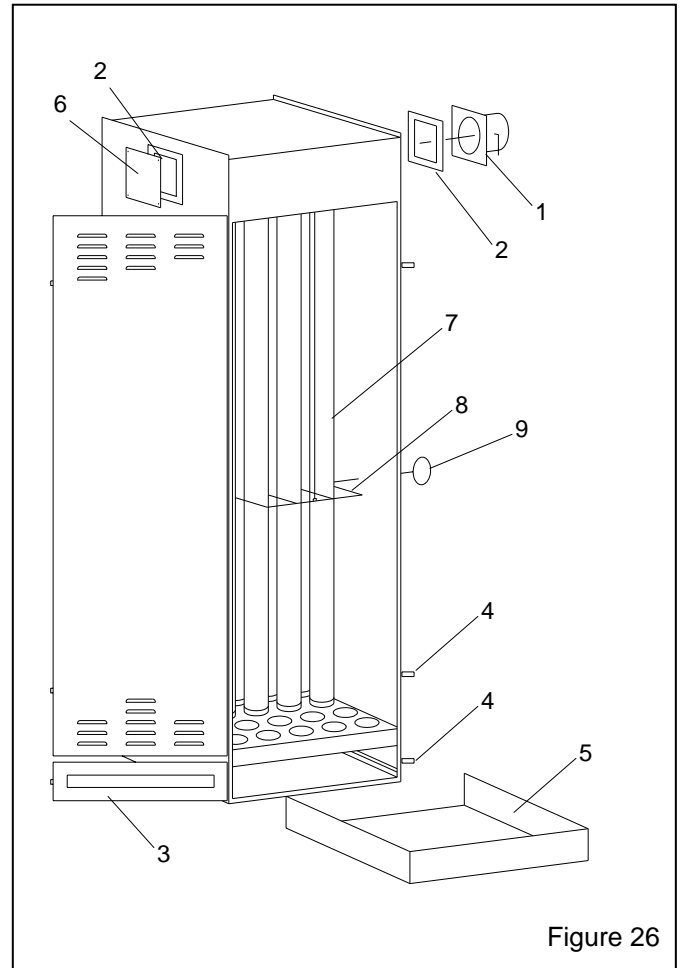

Figure 26
9.10 Dry Filter Dust Collector, Figure 26